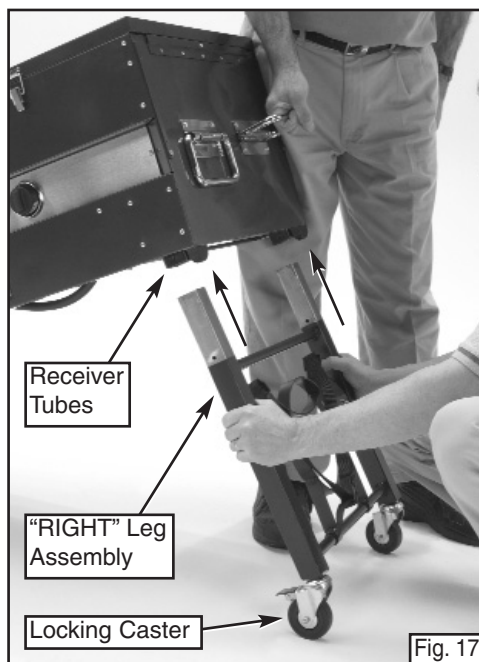

Fig. 17
■ Carefully raise the right end of grill and align "RIGHT" leg assembly with the receiver tubes on the bottom of the grill. (Fig. 17)